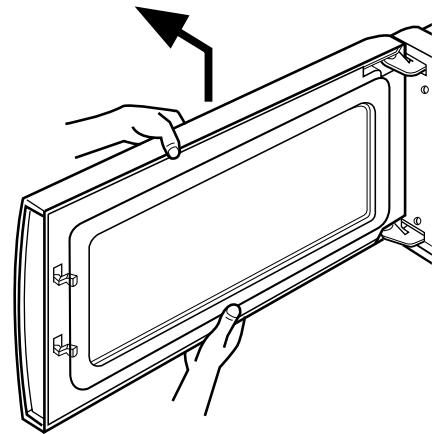

Figure 15
F. REMOVING DOOR (Figure 15)
- (1) Remove the vent grille by two screws securing it to the outcase loosening.
- (2) Lift up and draw the door.